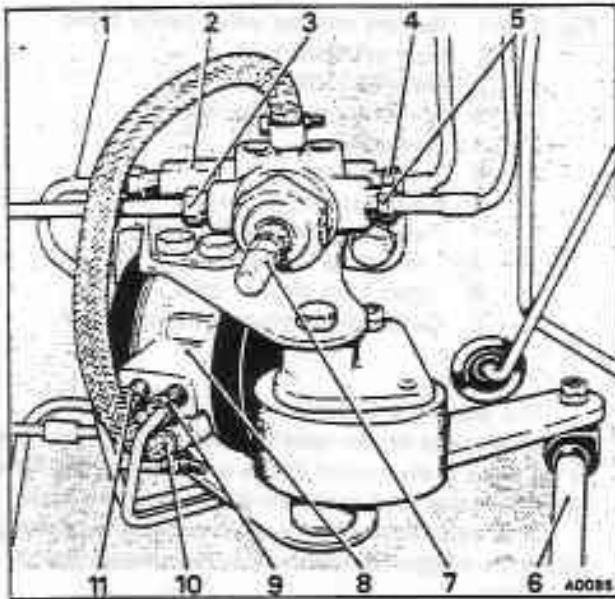

Fig. G12-2 Height control valve (later type)
#### Height control valve mounting assembly - To remove (see fig. G12-2)
#### Height control valve - To remove from the mounting bracket (see fig. G12-2)
#### Height control valve - To fit (see fig. G12-2)
**Height control valve mounting assembly - To fit (see fig. G12-2)**